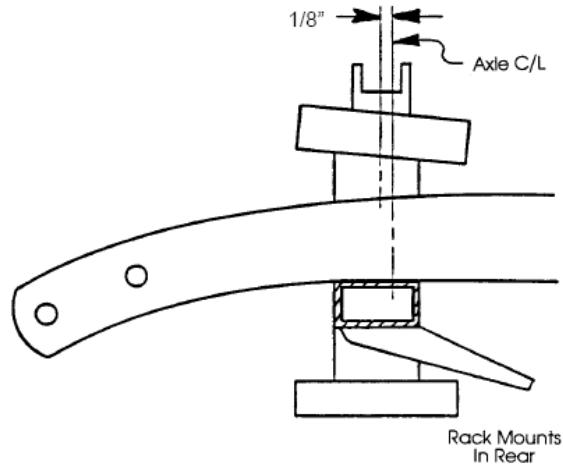

Figure 2- Crossmember Trial Fit
5. Trial fit the new crossmember onto the rails. It should be located with its centerline 118" forward of the marked axle centerline. See **Figure 2**. The caster setting will bring the spindle pin back in line. The frame is 25-3/4 wide at the axle centerline. During boxing, the rails may have a tendency to bow outward slightly if they were clamped ahead of the axle centerline. Pull the rails in to fit the crossmember up onto the rails. It should be seated flat against the bottom of the frame rails. Clamp in place, double check your measurements, making sure crossmember is squared on the frame, then weld in place. Weld all around, top, sides and bottom. This crossmember keeps the front frame rails from twisting and flexing, so good strong welds are required.